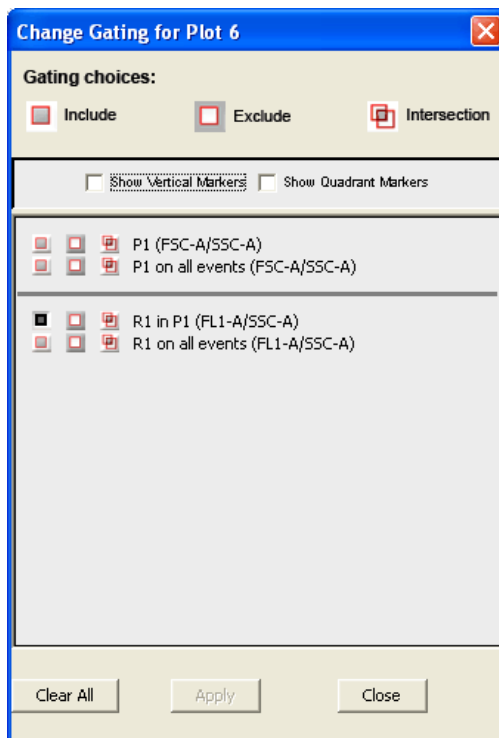

Figure 4-27. Applying the Child Gate
- In the Change Gating dialog box, select the option in which the second gate is “in” the parent gate (e.g., R1 in P1; see Figure 4-27). Alternatively, selecting the *on all events* option (e.g. R1 on all events) “un-nests” the gates.